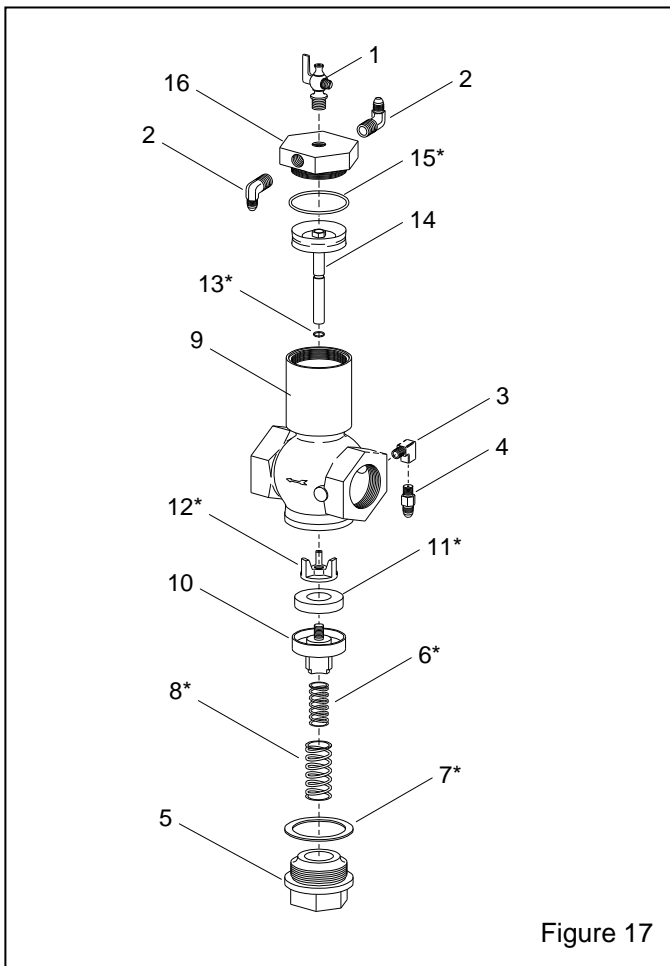

Figure 17
7.5 1-1/2" Inlet Valve, Figure 17